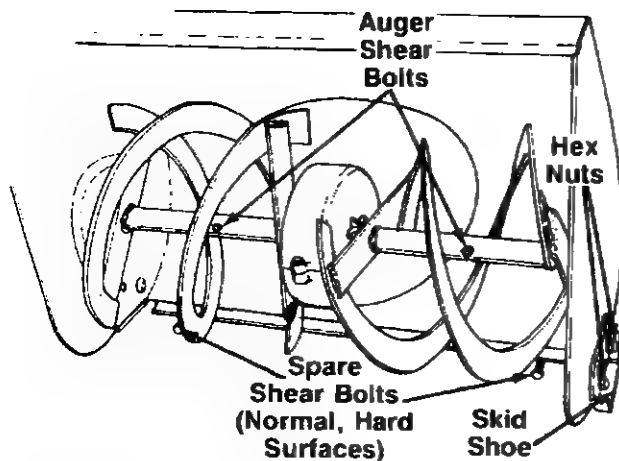

FIGURE 19.
3. Place the threaded ends of the spare shear bolts (provided in hardware pack) under the scraper bar, one at each end. See figure 19.
The augers are secured to the auger shaft with two special shear bolts and hex lock nuts. If you hit a foreign object or ice jam, snow thrower is designed so the bolts will break (to protect the snow thrower). Refer to figure 19.